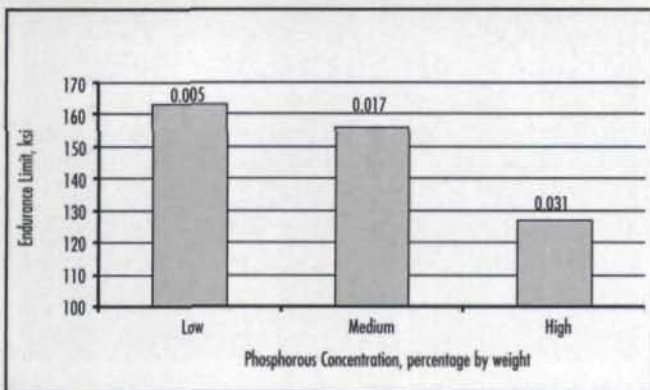

Figure 4—Effect of phosphorous on bending fatigue (Ref. 12).
In this approach, silicon (Si) is quite important since it forms the greatest amount of oxide to the deepest depth (Refs. 7 and 13). The oxides of manganese (Mn) and chromium (Cr) form closer to the surface, with the chromium oxides being the shallowest. Many are compound oxides. Excellent descriptive work may be found in References 7, 8, 9, 11 and 12. Phosphorus (P) and sulfur (S) are controlled due to their inherent effects on toughness. Hyde demonstrated the effect of phosphorus on bending fatigue, as shown in Figure 4 (Ref. 12). Basically, it is sufficient to maintain  $P < 0.015\%$ , which can be readily achieved.